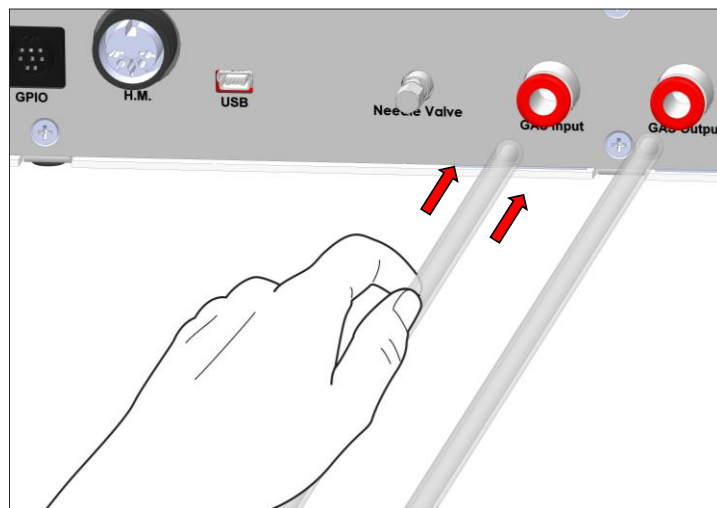

Figure 5. How to connect tubing to push to fit connector.
1. Connect gas supply to the input port labeled “GAS Input” on the rear panel of HM-ACTIVE-STANDALONE by using TUBE A (see Figure 5). Make sure to push the tube all the way into the push to fit connector thus avoiding any gas leak.